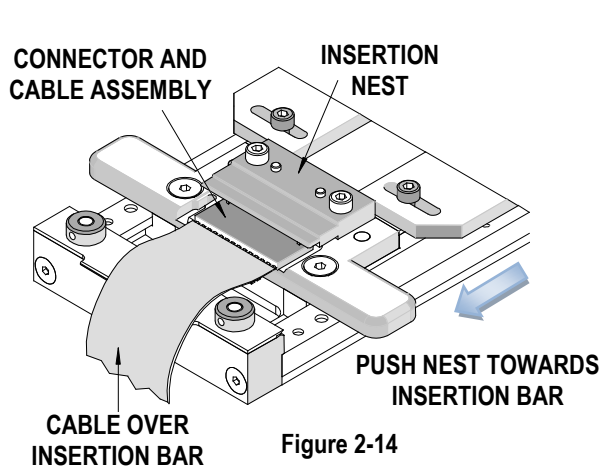

Figure 2-14
8. Remove the connector and cable assembly from the termination nest and load it into the insertion nest on the front of the FFC slide with the cable draped over the insertion bar. See Figure 2-14.